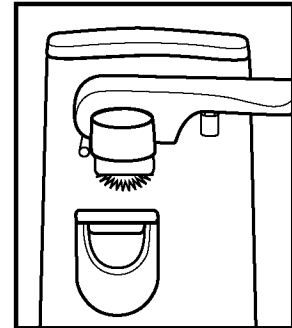

Figure 1
- 2 Pull up on the magnetic lid lifter until it locks in the up position, then gently lift the can opener lever to the upright position as shown in Figure 1.